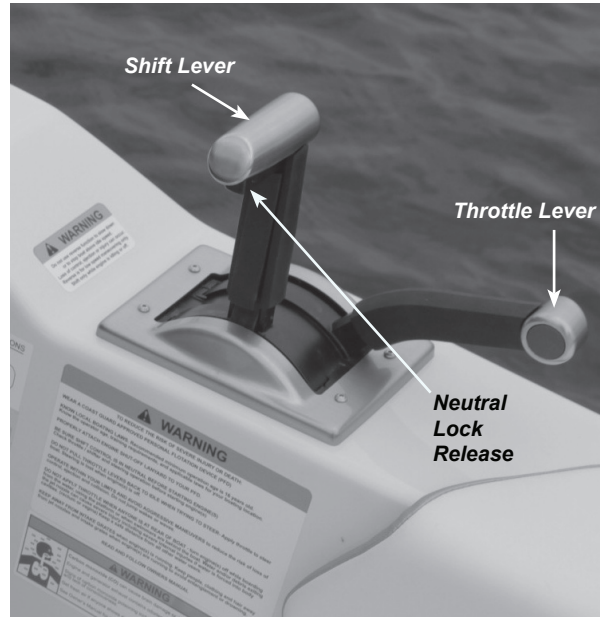

Figure D2: Separate Shift & Throttle Control
1. If your boat is equipped with a battery switch, turn the battery switch to I (ON) position (positions may vary depending on which model you have).
3. Move the control handle to neutral detent (idle) position. The position of the control handle is typically in the center or straight up position of the control. See Figures D2 & D3. Notice as you push the shifter control to the neutral position you will feel the neutral detent engage thus indicating you are in neutral. Note: A “start-in-neutral-only” feature prevents starting the engine while in gear.